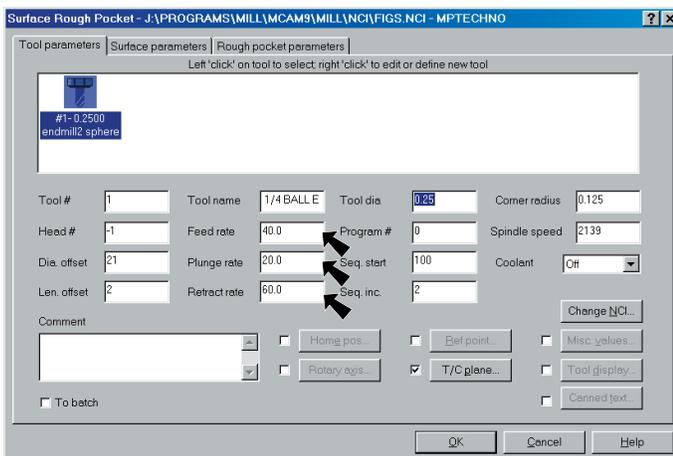

Fig. 4
Step 6. Set the Feed Rate: **40** Fig. 4